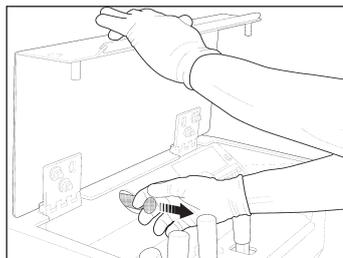

Fig. OZ7 Pulling the "R" locking bar
- ➔ Open the cockpit cover and hold it vertically, as shown in Fig. OZ7.
- ➔ Pull the locking bar "R" (Fig. OZ7) up.